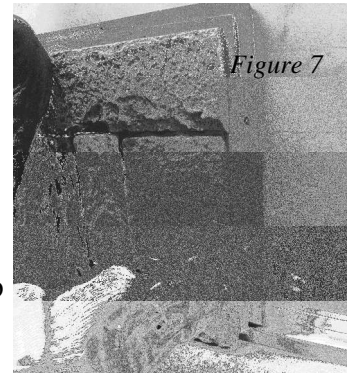

Figure 7
Step 2-Set the Castle Rock outside corner piece against the corner and down into the starter strip. Use the screw guides and place at least 3 screws along the tongue. Place 2 screws in the right lap side of the panel where indicated. (Fig. 7)